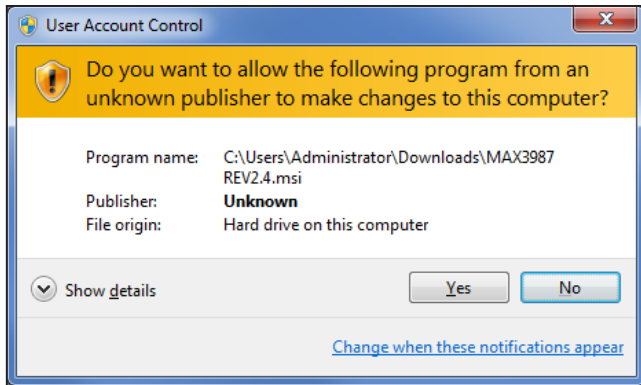
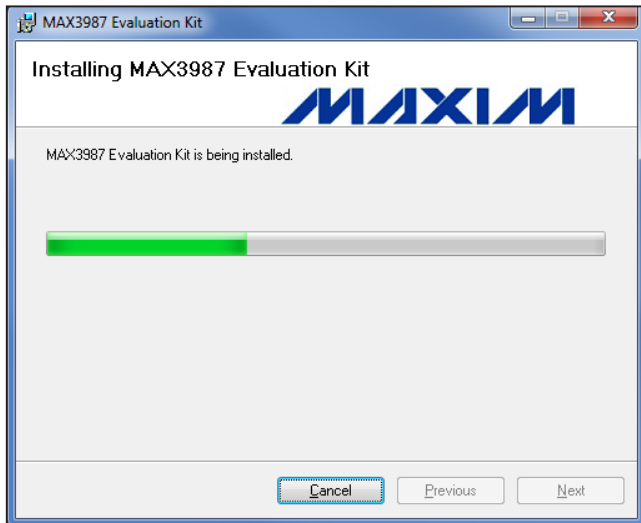

Figure 6. Windows User Account Control Warning
Figure 7. Software Installer Progress Indicator
5) If the software is installed on a PC with Windows Vista® or Windows 7, a **User Account Control** dialog box appears. Click **Yes** to allow the software installation to continue. See Figure 6. The dialog box switches to a progress bar and indicates that the EV kit software is being installed. The software installation should complete quickly since it is small. See Figure 7.